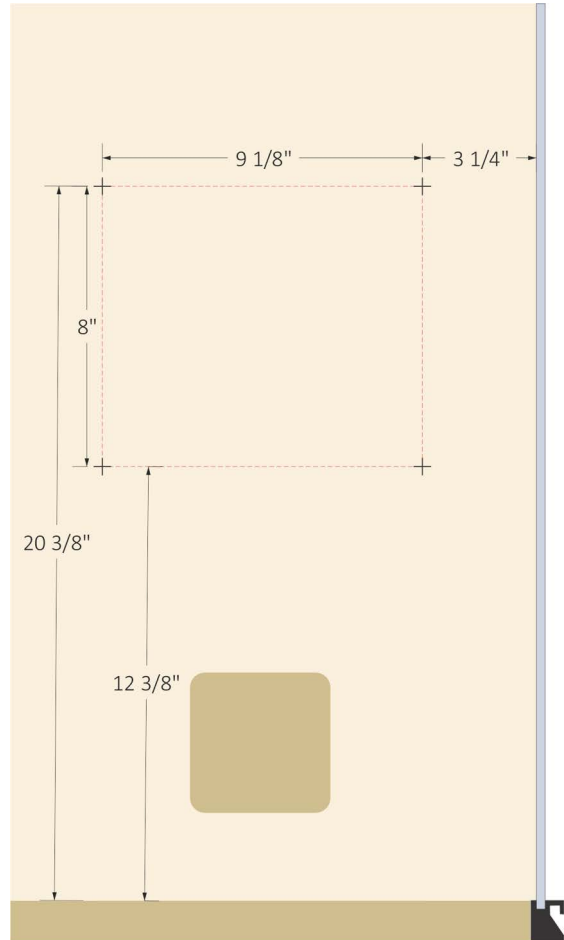

Figure 24. Mounting The Heater
70. Using the measurements provided in Figure 24, verify the position of the pre-drilled mounting holes for the heater.
71. Install the four (4) lag bolts (included with the heater) into the wall for mounting the heater.
73. Hang the heater onto the four (4) bolts, then tighten the bolts to the wall.